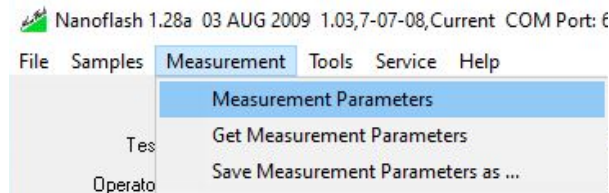

Figure 17. Measurement parameters selected using the Measurement tab.
- On the main screen, select Measurement Parameters from the Measurement tab (as shown in Figure 17).